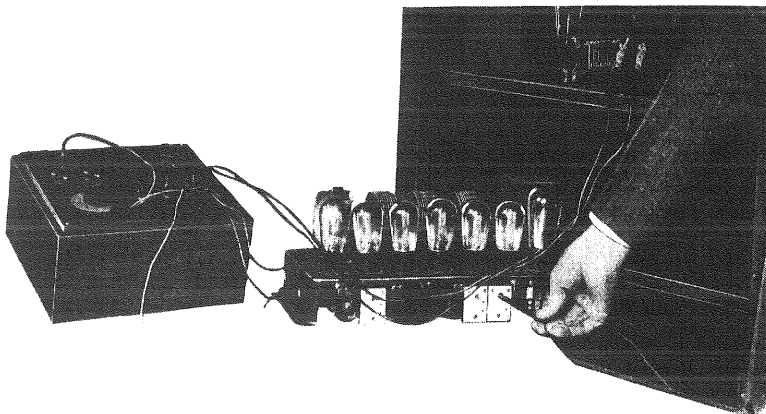

Figure 15—Method of adjusting oscillator trimming condensers
- (c) Now adjust the oscillator trimming condenser on the right, facing rear of Radiola (Figure 15) with the long, thin, non-metallic screwdriver until a maximum deflection is obtained in the milliammeter. The station selector should be moved slightly as adjustment is being made in order to keep correct tuning position, which is indicated by maximum deflection.